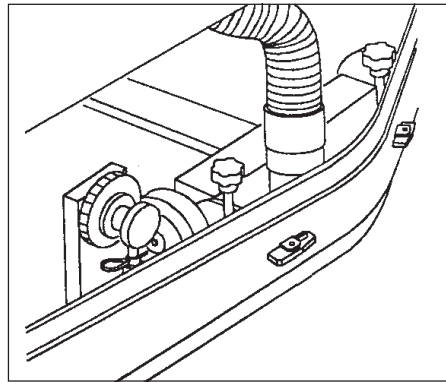

Figure 50
2. Push and rotate the small tabs on the squeegee so that they will slip through the holes in the squeegee blade clamping plate (see figure 50).